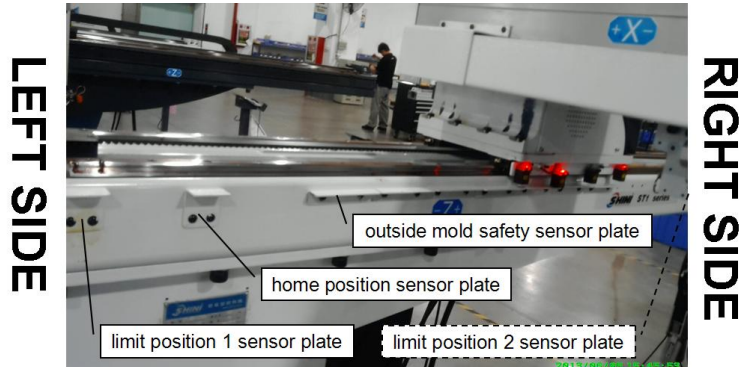
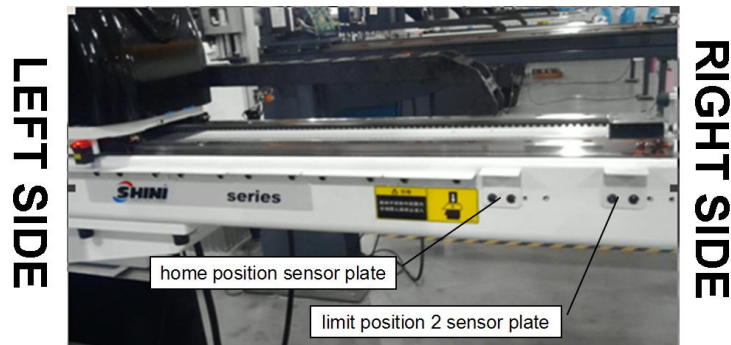

Fig.3-5: Sensor plate position before modifying
Fig.3-6: Sensor plate position after modifying
- 2) Move all the outside mold safety sensor plates from right side of traverse beam as shown in Fig.3-5 to the left side. Then move the home position sensor plate from the left side of traverse beam to the right side at the position of 100mm distance from the limit position 2 sensor plate, see Fig.3-6.